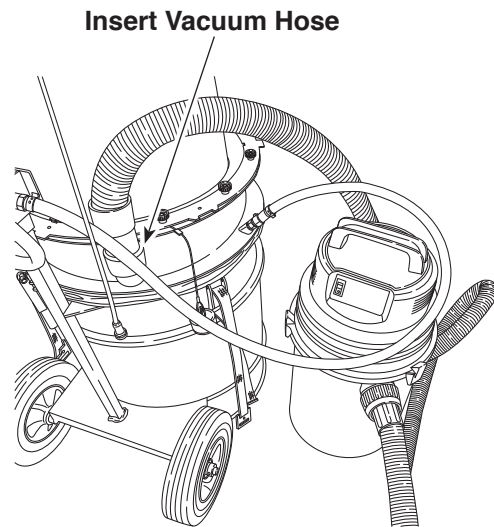

Figure 21
6. Remove the rubber plug from the intermediate base, and insert the hose from the vacuum. See Figure 21.